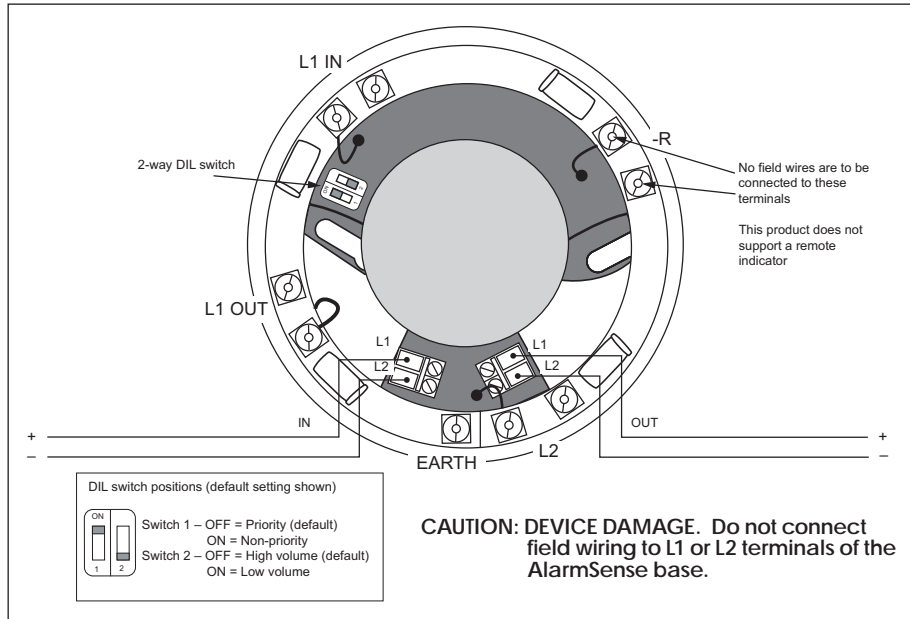

Fig 2a Combined Sounder/Sounder Visual Indicator Base
The AlarmSense Sounder Visual Indicator Base (Fig 2a), Part No. 45681-509, combines a sounder with a visual indicator and a detector base in one unit. The visual indicator is activated whenever the sounder is active and cannot be controlled separately.
3. The priority/non-priority feature and volume are set by means of the DIL switch, see Fig 2a & 2b.